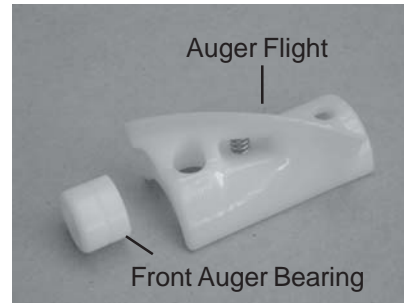

Figure 15. Plastic Parts
7. After proper cleaning, inspect plastic parts and rear seal parts for wear and damage. (See Fig. 15)